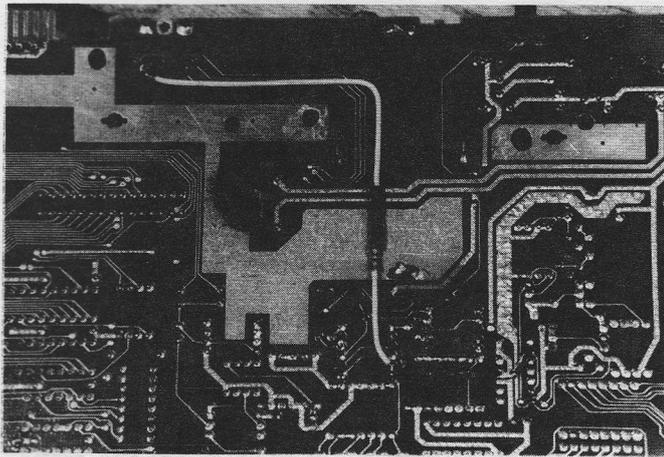

Figure 7. Foil side of 800XL motherboard showing Chroma pick-off resistor
Step 7. Now we'll install the chrominance pick-off resistor. Select a 100-ohm resistor (brown-black-brown-gold), and to one end of it apply a length of insulation (stripped from wire) leaving only 1/8" of the lead exposed. Cut a 5" length of wire and strip 1/4" insulation from each end, then solder this wire to the uninsulated end of the resistor. Now experiment a little to find the smallest diameter heatshrink tubing that will fit over both the solder bulge and the resistor body, then snip off a length sufficient to cover the bare lead from the resistor body to the solder junction plus an extra 1/4" to overlap both ends. Slip the tubing into place, then warm it by holding the assembly 1/4" above your hot soldering iron while slowly rotating it for even heating. The tubing will contract to make a neatly insulated assembly (see Fig. 7). **DO NOT** use tape to insulate this resistor!